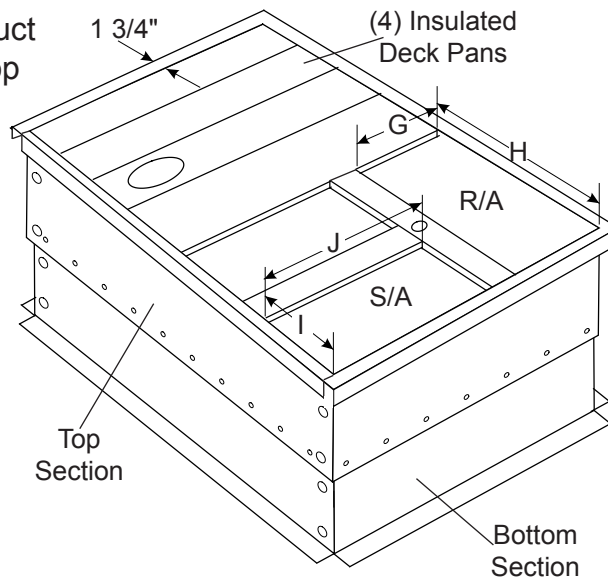

Figure 2
4. Install the deck pans and duct supports to the top of the top section. See Figure 2. Gasket the top 1 3/4" perimeter and around the duct openings.